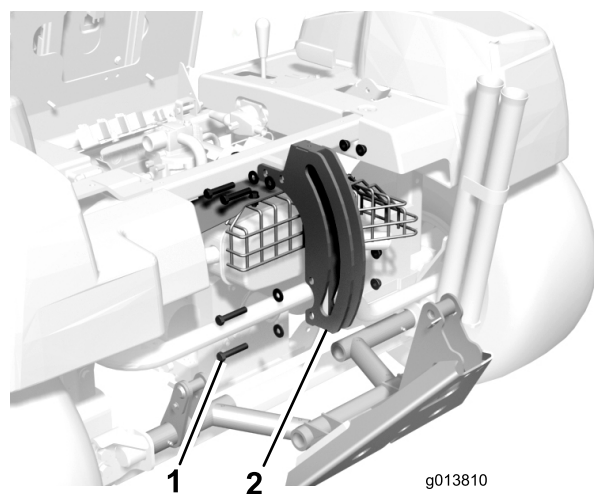

Figure 3
6. Remove the (4) bolts, washers and flange nuts securing the roller plate to the frame (Figure 3). Retain roller plate and fasteners.